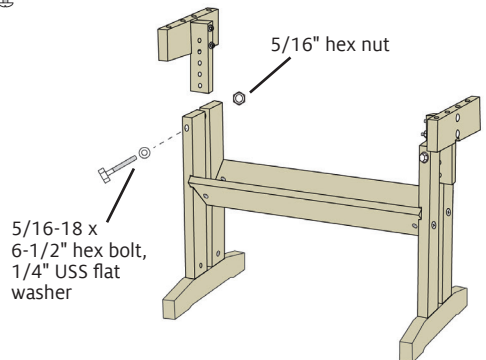

FIGURE 3: INSTALL HEIGHT ADJUSTERS
7. Fit the height adjusters between the top ends of a left and right upright, with the seat supports facing outward, as shown in Figure 3. Align the topmost hole in the height adjuster with the holes at the top of the uprights. (You can adjust the height after you finish assembly.) From the front of the bench, insert a 5/16-18 x 6-1/2" hex bolt through a 1/4" USS flat washer, then through all these holes. Secure the hex bolt with a 5/16 hex nut. Attach the remaining height adjuster and seat support at the other side of the loom.
Your bench is now fully assembled at a height of 20". To adjust the height, remove the hex bolts attaching the height adjusters to the uprights (shown in Figure 3)—the bench seats, seat supports, and height adjusters remain attached to each other.